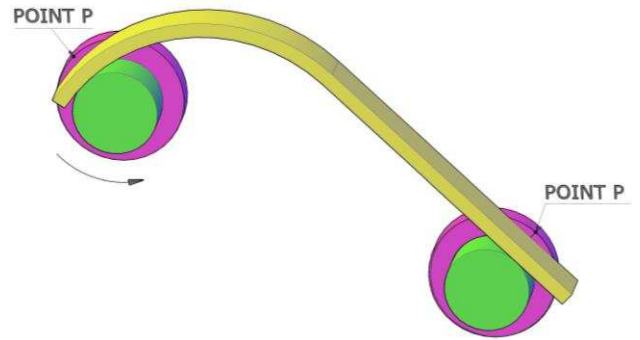
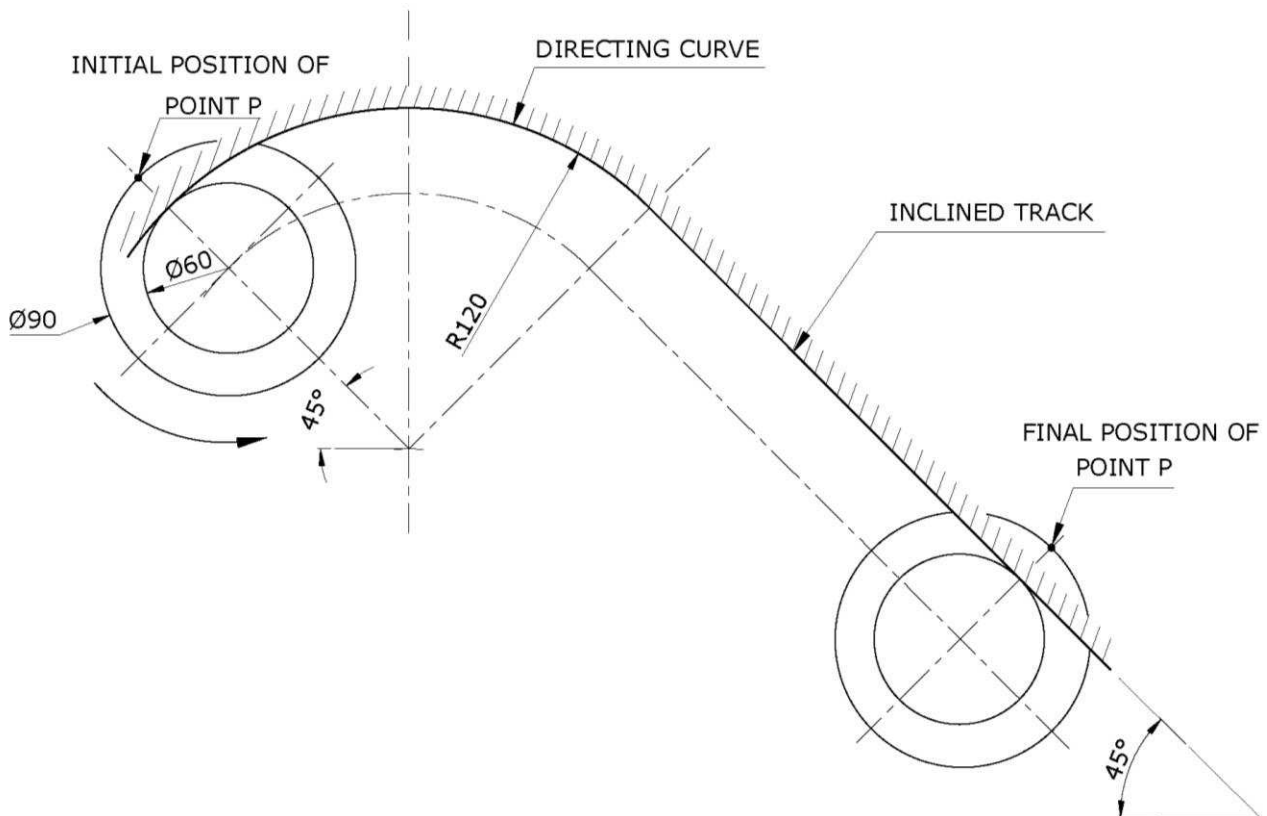

Figure 2a
Figure 2b
2. A flanged wheel having an inner and outer circumference, is constrained to roll without slipping on its inner circumference, for two complete revolutions. Figure 2a shows an arrangement of the flanged wheel and the track on which the wheel is to roll. From the initial position shown in Figure 2b, and to a scale of 1:1, construct:
- the locus generated by the point P as the wheel rolls for one complete revolution on its inner circumference round the fixed directing curve. State the name of the locus generated. (9)
- the locus generated by the point P as the wheel rolls a further revolution on its inner circumference along the inclined track. State the name of the locus generated. (6)
- the instantaneous radius of curvature of the locus drawn in part (a) when the wheel has rotated 240° from the initial position. State the value of this radius of curvature. (3)
- a normal and a tangent to the locus drawn in part (b) when the wheel has rotated 240° on the inclined track. (2)